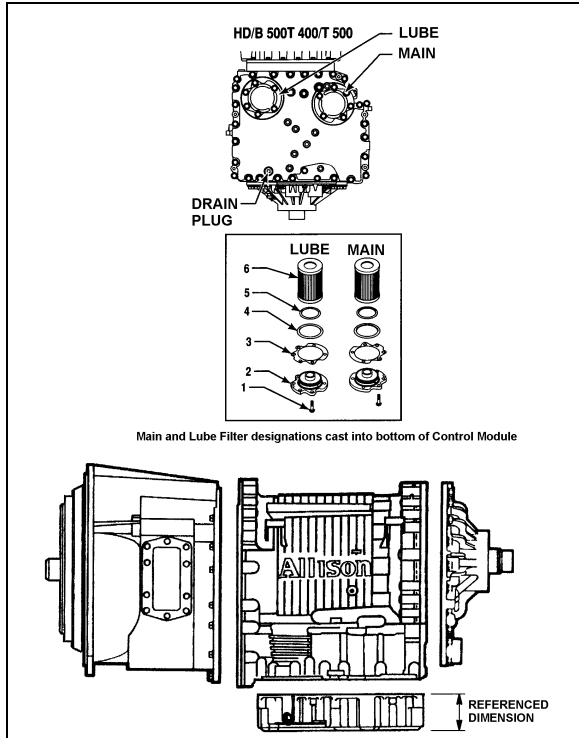

FIGURE 7: DRAIN PLUG AND FILTERS 07074
2. Remove the drain plug from under the transmission (Fig. 7) and allow the oil to drain into a suitable container. Check the condition of the oil as described previously.
3. To replace the integral filters, remove twelve bolts (6 on each cover), two filter covers, two O-rings, two square cut seals and the two filters from the bottom of the control module (Fig. 7).